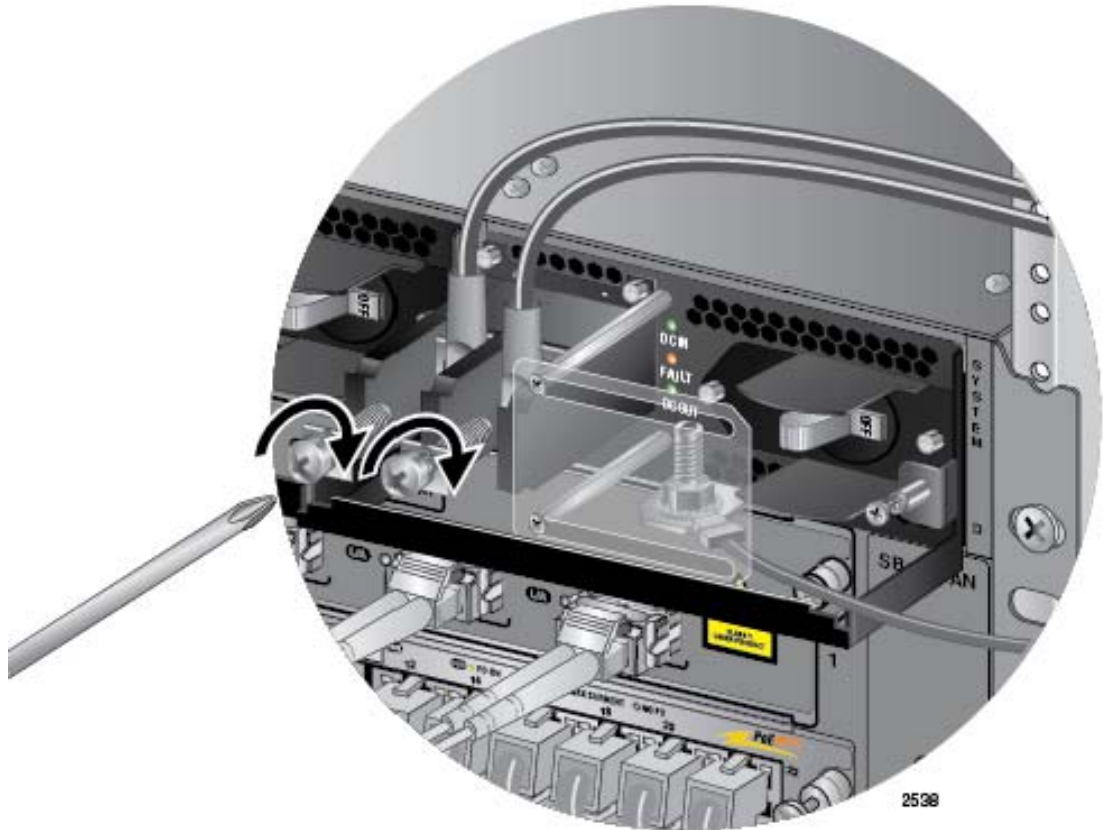

Figure 128. Connecting the Power Wires
5. With a #3 Phillips-head screwdriver, connect the power lead wires to the positive and negative terminals on the power supply, with the terminal screws removed in step 4. The positive terminal is on the left and the negative terminal is on the right. You may attach the terminals with the wires either above or below the terminal block. Figure 128 on page 171 shows the wires above the terminal block.